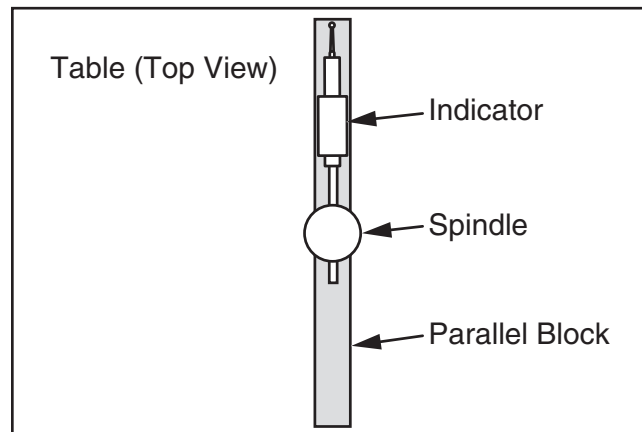

Figure 58. Parallel block and indicator positioned for the Y-axis measurement (top view).
8. Place parallel block directly under spindle and across width of table, as illustrated in **Figure 58**.
9. Rotate spindle so indicator point rests on parallel bar, as illustrated in **Figure 58**, then zero the dial.